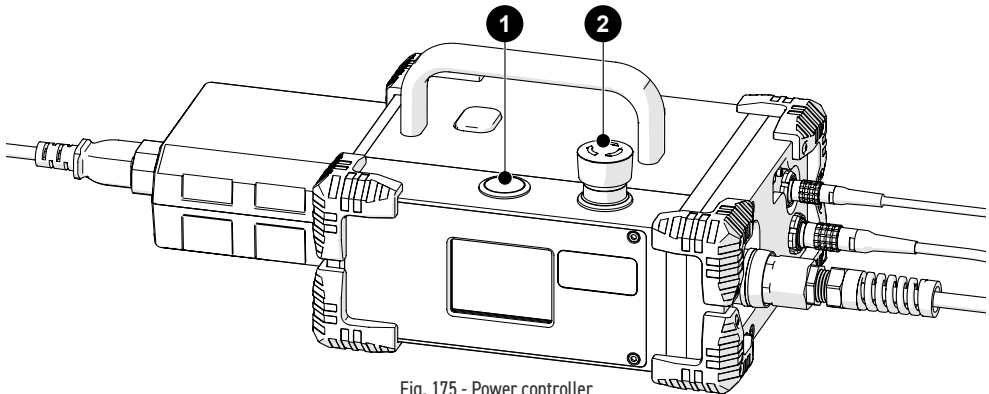

Fig. 175 - Power controller
3. Locate the ② red off push-button on the power controller. Rotate this button clockwise to unlatch (Fig. 175).
4. The ① power button (Fig. 175) on the power controller energizes the system.